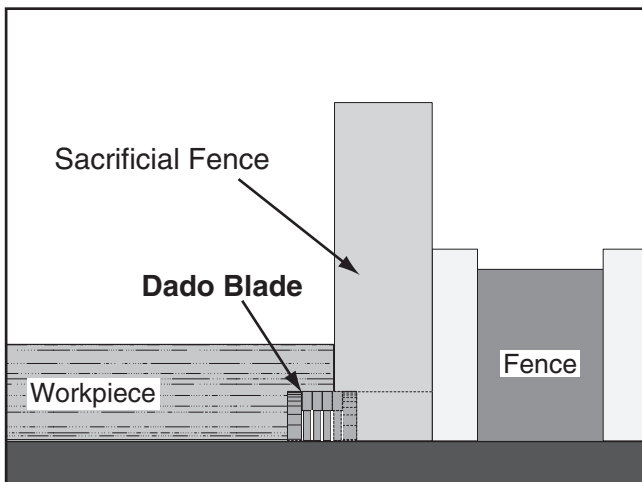

Figure 66. Rabbet cutting.
3. Adjust fence and align workpiece to perform cutting operation, as shown in **Figure 66**.